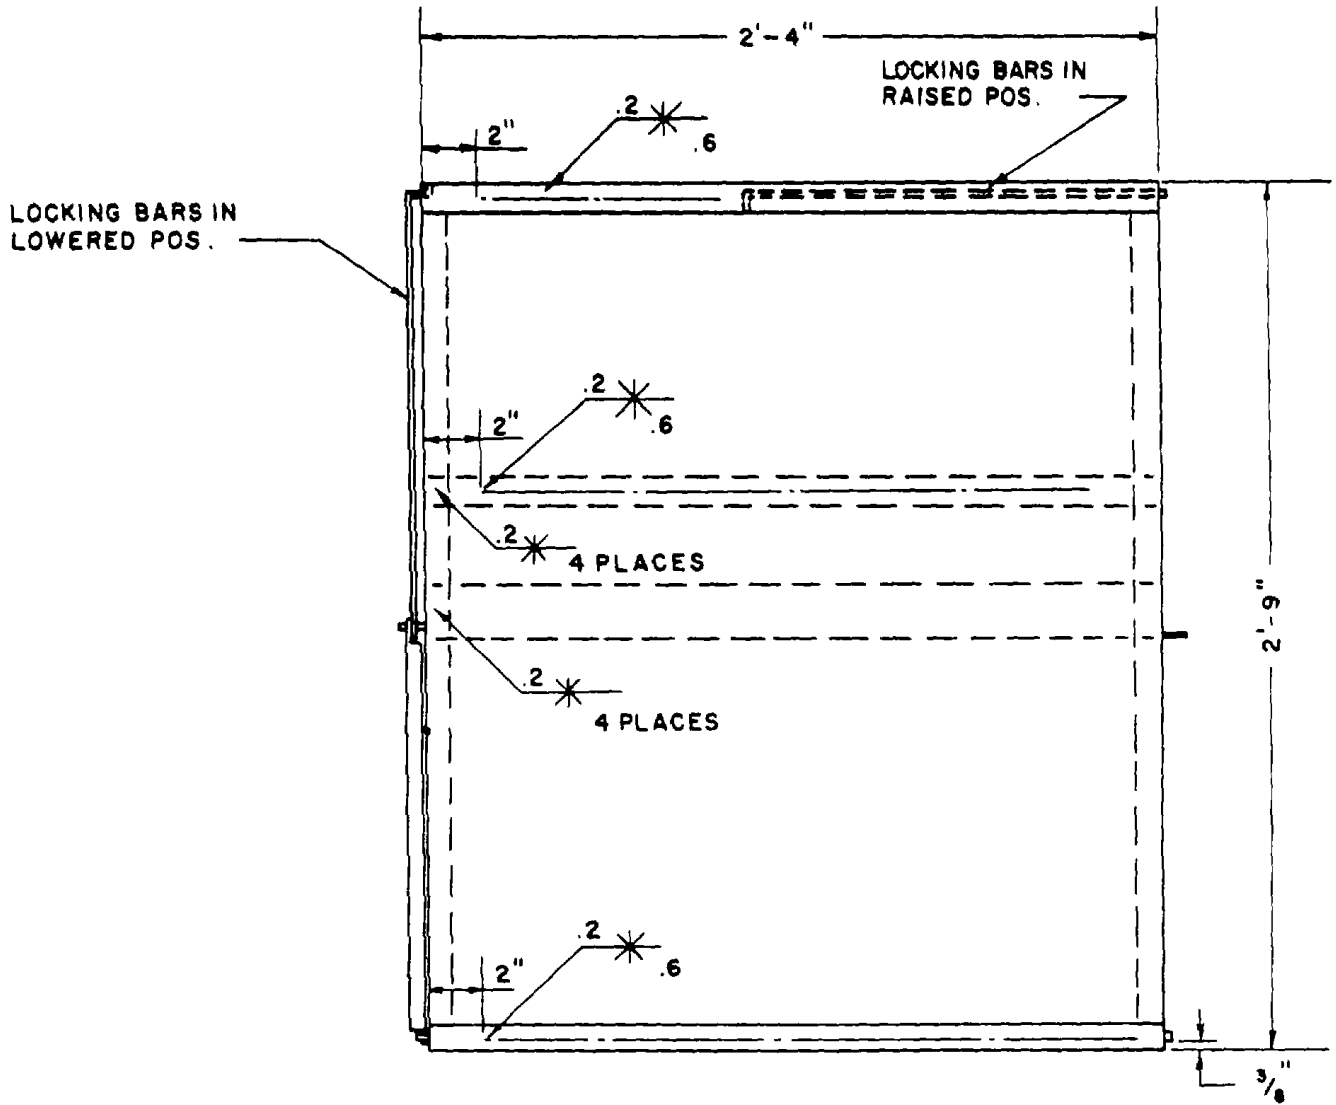

Figure 89. Typical cabinet side, type III.
*a Repair.* Fabrication and assembly of components which may be required for repair or replacement are shown in figure 89 through 95 These components will be fabricated in accordance with these figures when required.